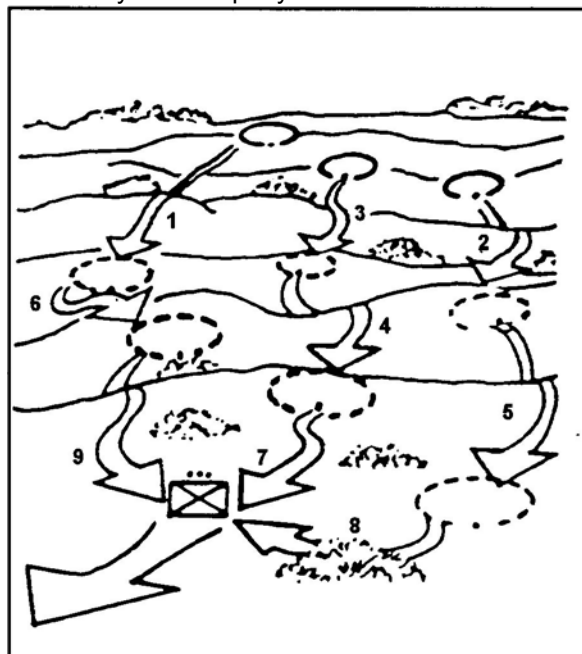

Figure 5. Bounding overwatch to the rear.
5. At some point in the action, the platoon can stop fire and maneuver. It then continues its withdrawal by bounding Overwatch to the rear (Figure 5). This occurs when the platoon is no longer under enemy direct fire or when another platoon is covering its move. Once disengagement is complete, the platoon moves as directed by the company commander.